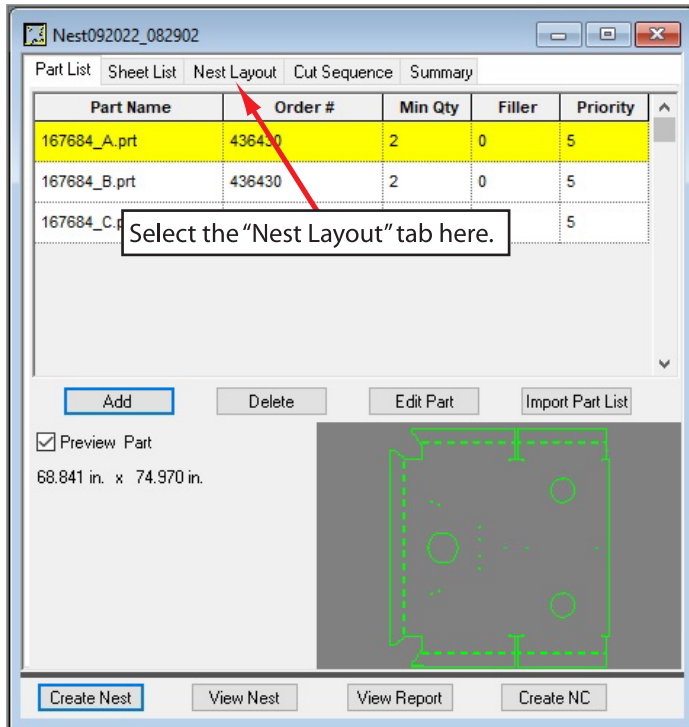
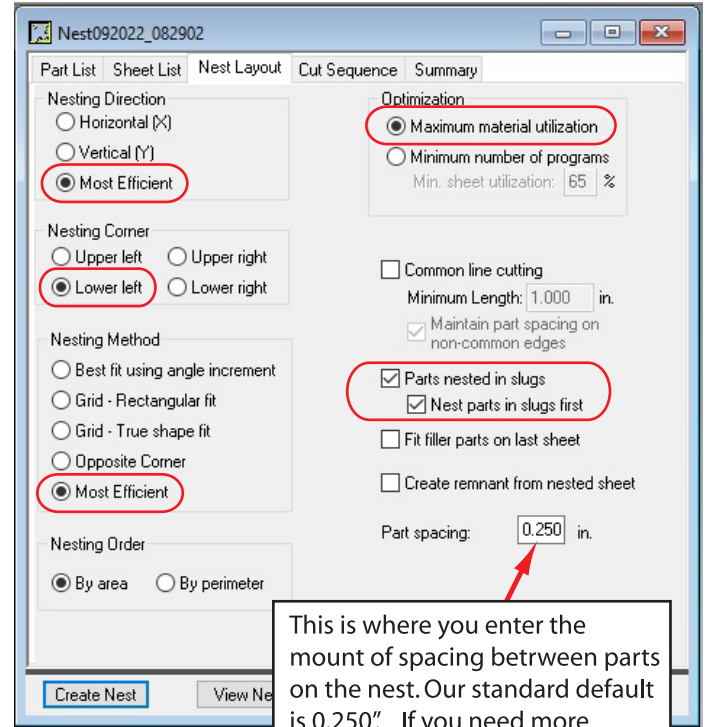

Fig.26
Fig.27
- 33) When your finished adding all the parts you need, select the “Nest Layout” tab as shown in Fig. 26 below, and a window will open showing more items you’ll need to select before posting your code. The left side of the window (Fig.27) offers different ways of nesting according to how you want to nest the items. Unless you are after a specific direction to nest or other, we will always just use the settings shown below in Fig.27 so that it runs through all 6 different nesting configurations for the most efficient use of material and placement of parts. The last box (lower right corner) is used to set the spacing between the parts in your nest.